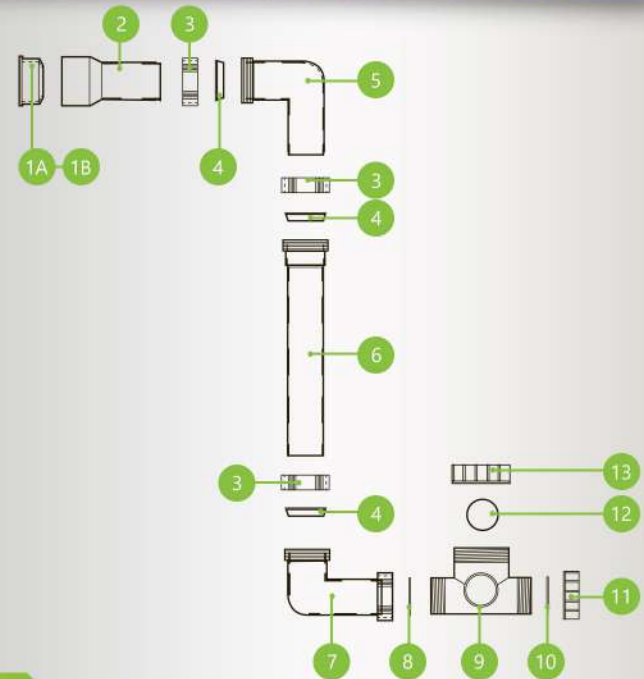

FIG 1
3. The max. height of the standpipe that consists of elbow (5) and immersion pipe (6) is 300 mm (Fig. 1). This allows a max. negative pressure of ca. 2.900 Pa at the drainage nozzle of the unit. If the negative pressure is less than that the length of the immersion pipe (6) can be shortened appropriately (Table 2).
For assembly (see Fig. 1). Attention must be paid during assembly that the pipes are always inserted into the nozzle as far as they will go.